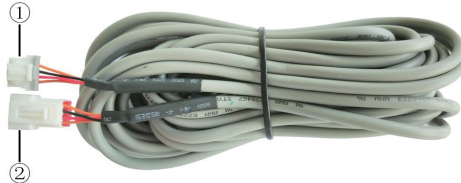

Fig. 23: Schematic diagram of connection wire: Connect terminal① with wired controller CN1; connect terminal ② with the terminal ④ of patch cord
Only use the connection wire (fig. 23) in the packing box of wired controller. Connect the terminal ② to the terminal ④ of patch cord which has been installed on the air conditioner; insert terminal ① to needle stand CN1 of wired controller. If there's protection terminal ③, pull out the protection terminal at first and then install it.